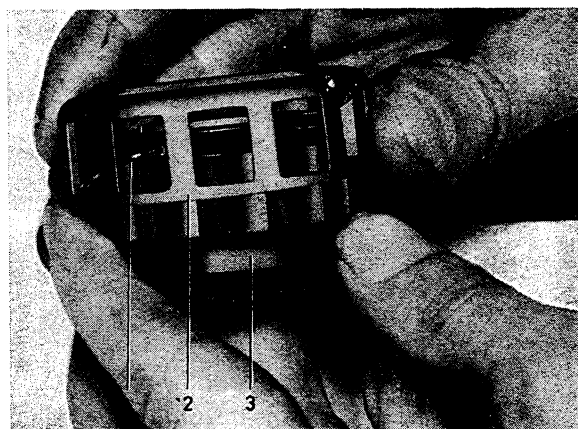
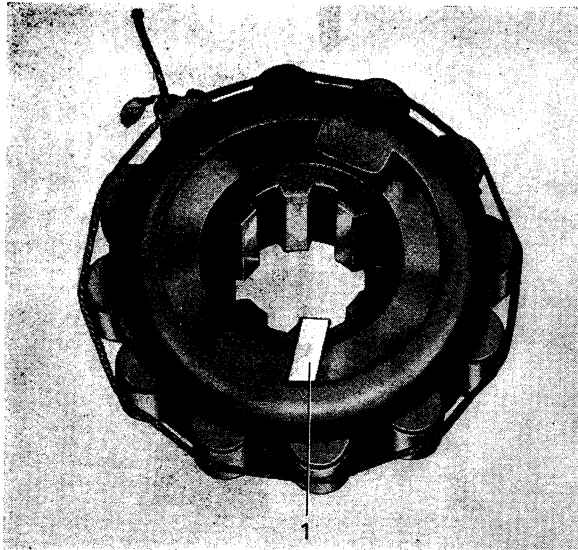

Fig. 4-44. Assembling uni-directional clutch, I
Fig. 4-45. Assembling uni-directional clutch, II
5. Assemble the uni-directional clutch, spring and roller cage, see Fig. 4-44. Turn the roller cage clockwise as far as it will go and lock it in this position with a key as shown in Fig. 4-45. Place in the rollers. Tie a piece of rubber, band or string round the rollers.